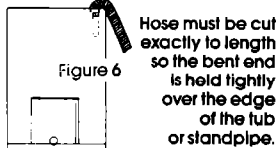

Figure 6
**D.** If the drain hose cannot be strapped in place, it must be cut exactly to length so the bent end is held tightly over the edge of the tub or standpipe (see Figure 6.)